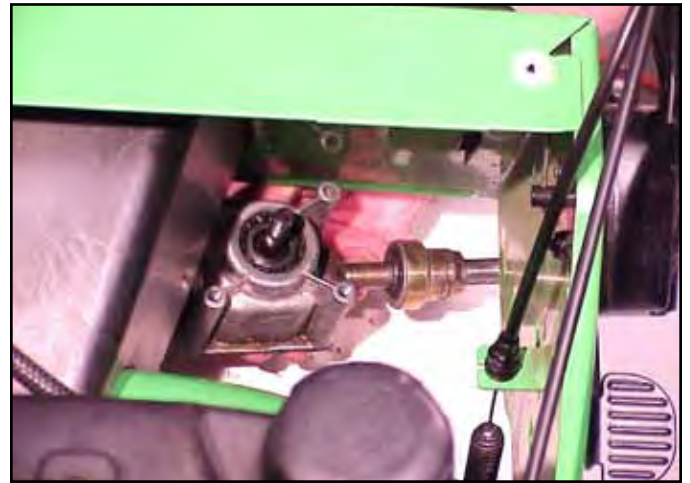

Fig 104 MVC-300X
16. Push the transmission to the left, as shown, and rotate to clear the tunnel. Drop the left side down, then pull the assembly out to the left side (Fig. 104).